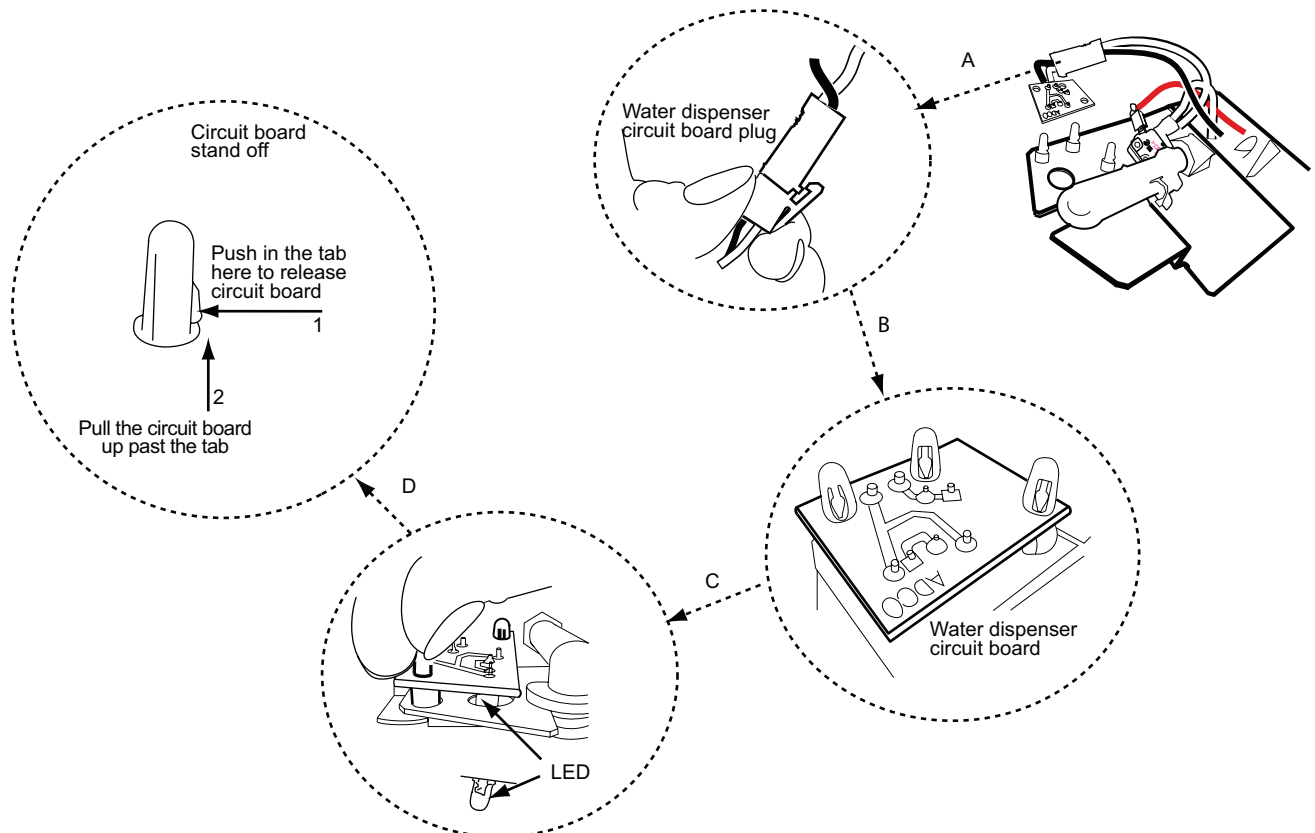

Figure. 10-11. —LED circuit board replacement
5. Disconnect circuit board from circuit. See Figure 10-11, A
6. Remove circuit board from bracket. See Figure 10-11, B, C and D.